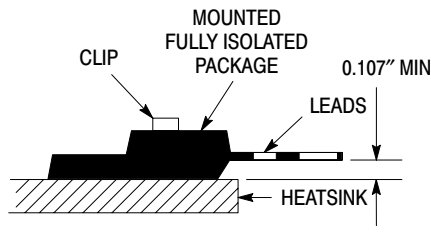

Figure 4. Clip Mounting Position
1. UL Recognized mounting method is per Figure 4.
2. UL Recognized mounting method is per Figure 4.